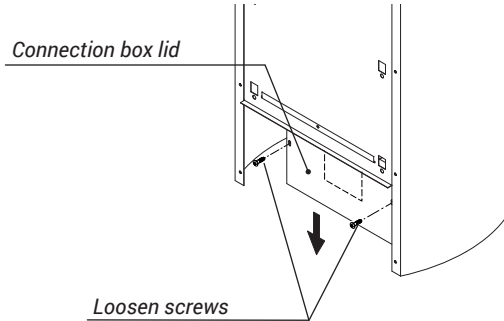

Fig. 5
- Open the rear lid of the connection box (release 2 screws) as shown in Fig. 5 and remove the lid downwards.